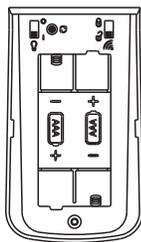

Figure 18
- Remove the battery cover from the remote control (G). Install 2 AAA batteries (not included). Replace the battery cover. (Figure 18)